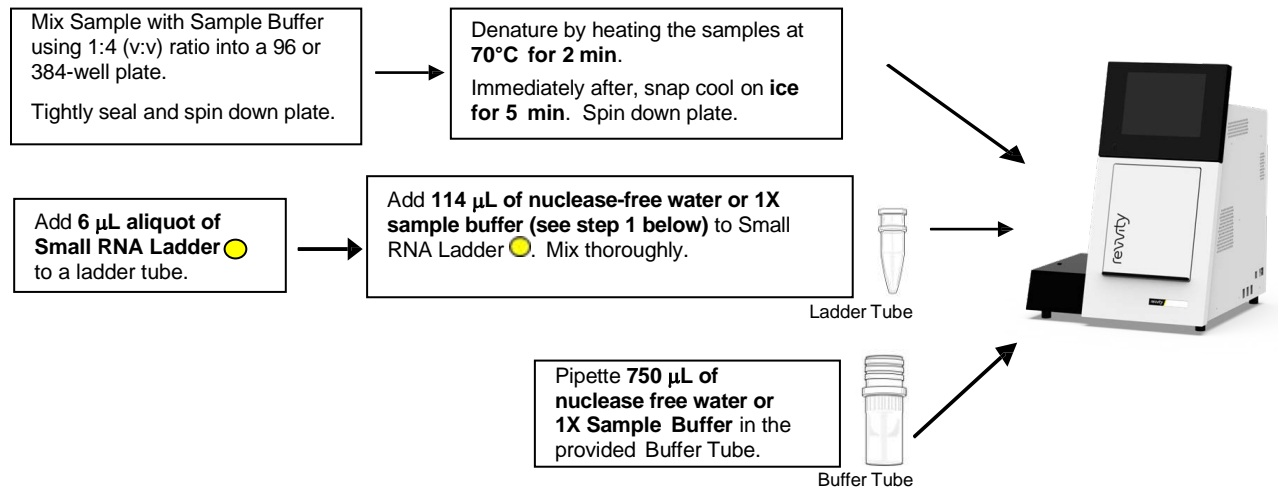

Figure 3. Sample, Ladder Tube and Buffer Tube Preparation
2. Prepare sample, Ladder Tube and Buffer Tube according to **Figure 3**. For sample heat denature, if a 384-well thermocycler or heat block is not available, sample plate can be heated by placing plate on top of one heat block, and then placing another heat block on top of the plate. Nuclease-free water can be used in place of sample buffer for highest sensitivity. Samples can also be run undiluted.